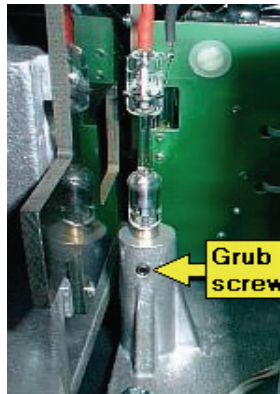

Figure 71 Loosen the grub screw
3. Loosen the two screws located on the left-hand and right-hand underside of the instrument, as shown in Figure 71.